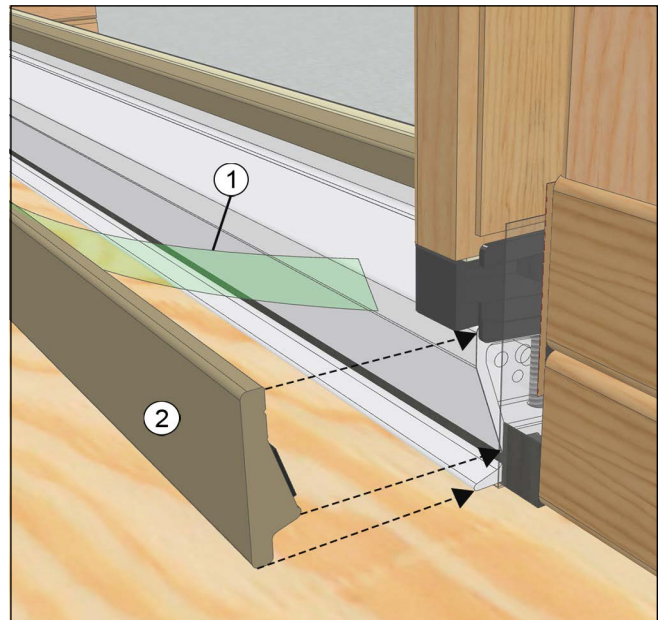

Figure 9
7. Wipe down the interior side of sill and apply the sill liner by peeling the backing off the tape, aligning with the end of the sill and flush with the top of the sill dam. Apply pressure to allow tape to make good contact and adhesion with sill. See Figure 9.